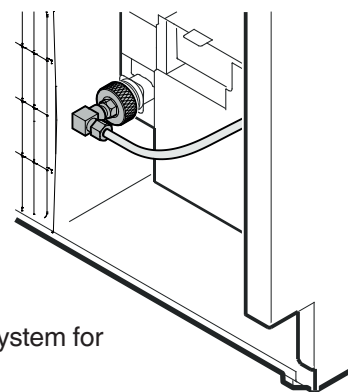

Figure 16
6. Connect the water line to the adapter in the respective configuration, depending on the type of water line used. Figure 16 shows the configuration with a copper line as an example.
8. Screw the adapter onto the solenoid valve (Figure 16).